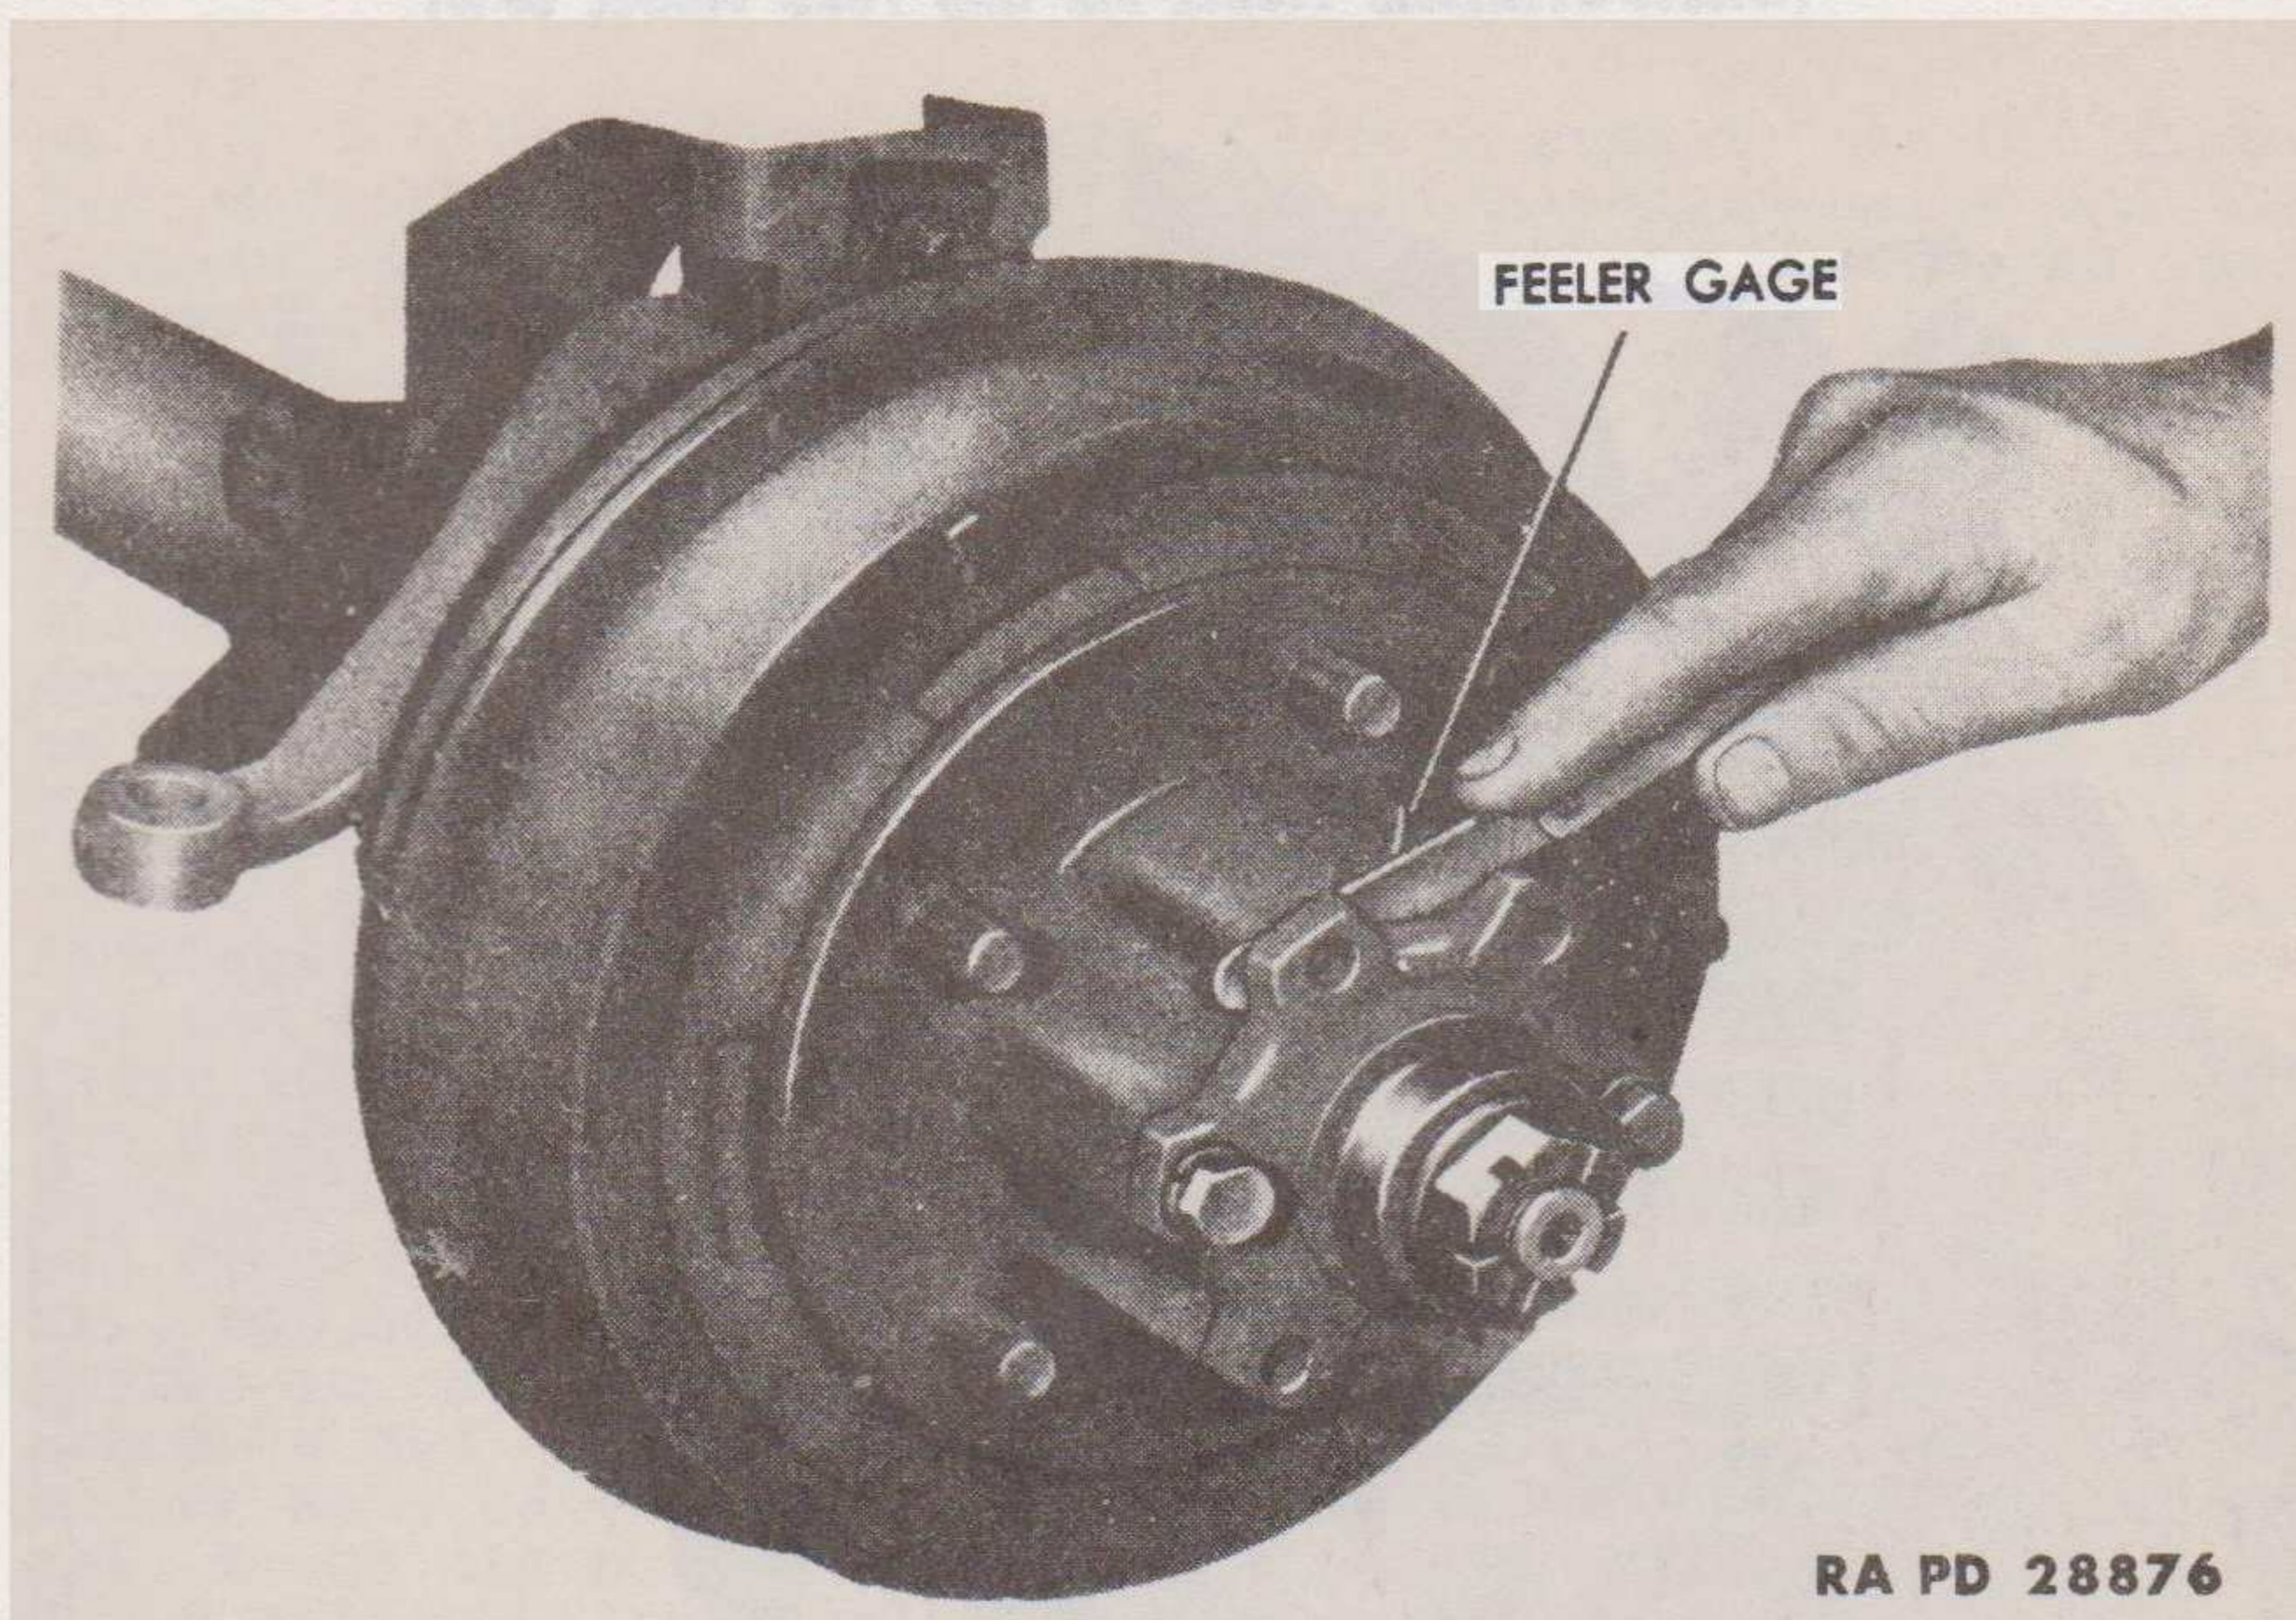

Figure 73 – Checking Clearance Between Drive Flange and Hub
v. Install Drive Flange (fig. 73).
(2) **BENDIX OR TRACTA TYPE AXLE SHAFT (fig. 73).** Place the drive flange on the axle shaft. Install the castellated nut on the axle shaft and draw it down tight. Turn the front wheels to the maximum left or right and measure the space between the drive flange and hub with a feeler gage (fig. 73) to determine the number of shims to be installed. Remove the nut from the axle shaft and remove the drive flange. Add the required thickness of shims between the drive flange and the hub. Install the six cap screws that secure the drive flange to the hub. Install the castellated nut on the axle shaft. Back off the nut on the axle shaft until a 0.50-inch feeler gage can pass between the nut and drive flange. Tap the nut on the axle shaft lightly. The axle shaft will move inward. Again check the space between the nut and drive flange. The space should not be less than 0.015 inch or more than 0.035 inch. If the space is less than 0.015 inch, add shims behind the drive flange and hub until this limit is obtained. If the space is more than 0.035 inch, remove shims from the drive flange until the above limit is obtained. Draw the nut on the axle shaft up tight. Install the hub cap.